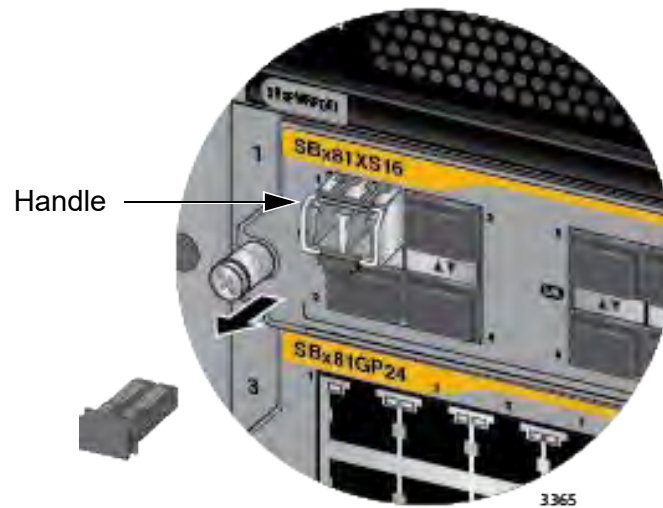

Figure 105. Verifying the Position of the Handle on the Transceiver in the AT-SBx81XS16 Line Card
4. Before connecting the cable, verify the position of the handle on the transceiver. If the transceiver is in an odd numbered slot, the handle should be in the upright position, as shown in Figure 105 on page 178. If the transceiver is in an even numbered slot, the handle should be in the down position.